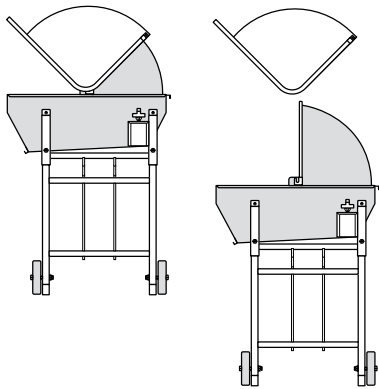

FIGURE F10
2. Open the roaster hood lid and remove food racks (Figure F10).